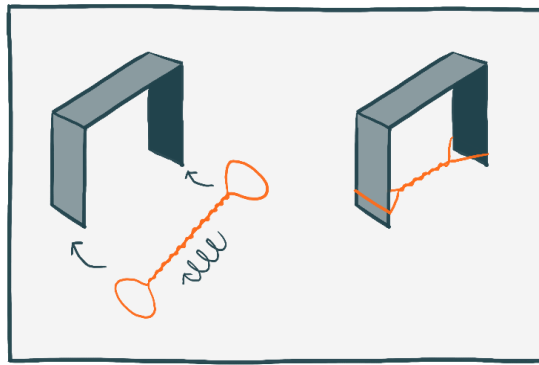

Fig. 1
3. Attach the ends of the twisted elastic to the ends of the frame arms. The rubber band should be taut (see Fig. 1).